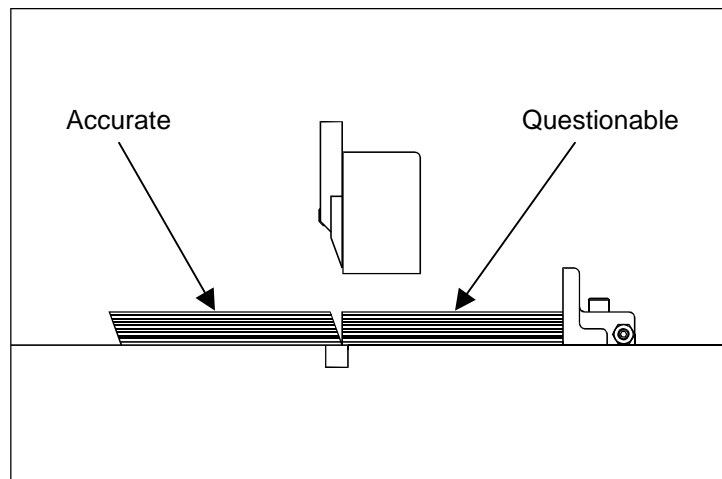

Figure 8
3. Take a sheet from the center of each lift and compare them to each other. The cutter will always space accurately between cuts (in this case the 10" and 5" cuts) whether the overall accuracy is correct or not (Figure 8). The front stack will be a true 5", but the paper left against the backgauge will not be if the backgauge position is inaccurate.